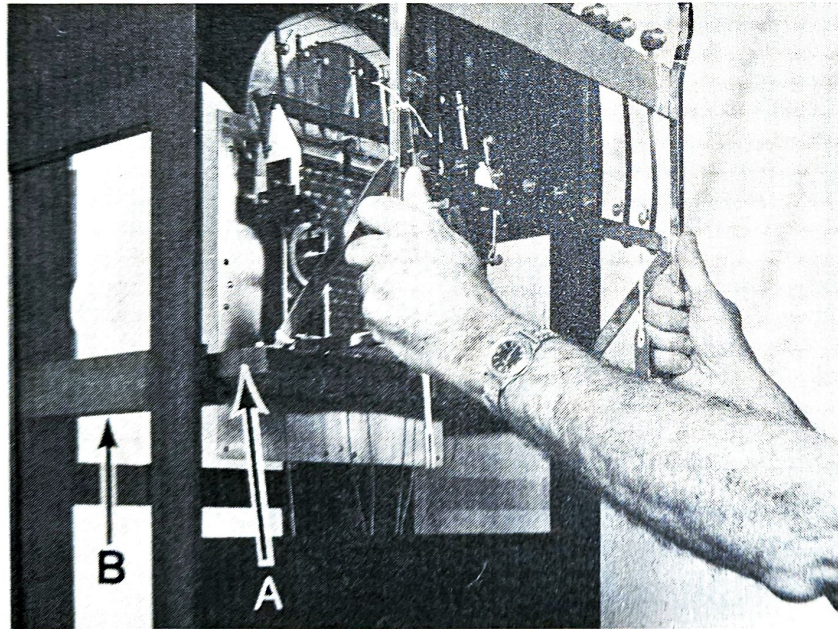

Fig. 1
Remove protective tissue wrapping from movement, but **DO NOT** remove cardboard strip holding hammer and springs until movement is in case. Holding movement by the tube rack (Fig. 1), set seat board (A) on side rails (B) in cabinet. Slide movement forward until it is flush with face of cabinet. Line up clock face with opening in cabinet. Using key, open front door. Next, using a nail or long, thin object, line up screw holes in seat board and side rails. Screw seat board to side rails, using four phillips screws located in small envelope on top of seat board. Screws should be *tight*.